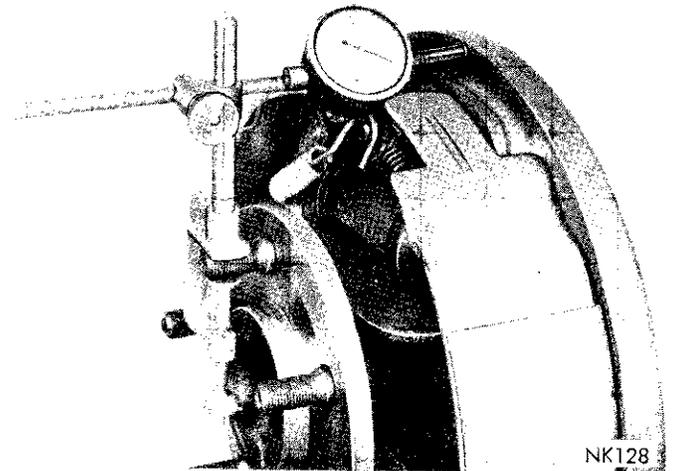

Fig. 15—Measuring Axle Shaft End Play
(1) Using a dial indicator mounted on the left brake support (Fig. 15), TURN THE ADJUSTER CLOCKWISE UNTIL BOTH WHEEL BEARINGS ARE SEATED AND THERE IS ZERO END PLAY IN THE AXLE SHAFTS. BACK OFF THE ADJUSTER COUNTERCLOCKWISE APPROXIMATELY FOUR NOTCHES TO ESTABLISH AN AXLE SHAFT END PLAY OF .008-.018 INCH.
(2) Tap end of left axle shaft lightly with a non-metallic mallet to seat right wheel bearing cup against adjuster, and rotate axle shaft several revolutions so that a true end play reading is indicated.
(3) Remove one retainer plate nut, install adjuster lock. If tab on lock does not mate with notch in adjuster, turn adjuster slightly until it does. Install nut and tighten 30-35 foot-pounds.
(4) Recheck axle shaft end play. If it is not within the tolerance of .008-.018 inch, then repeat adjustment procedure.
(5) Remove dial indicator and install brake drum, drum retaining clips and wheel.